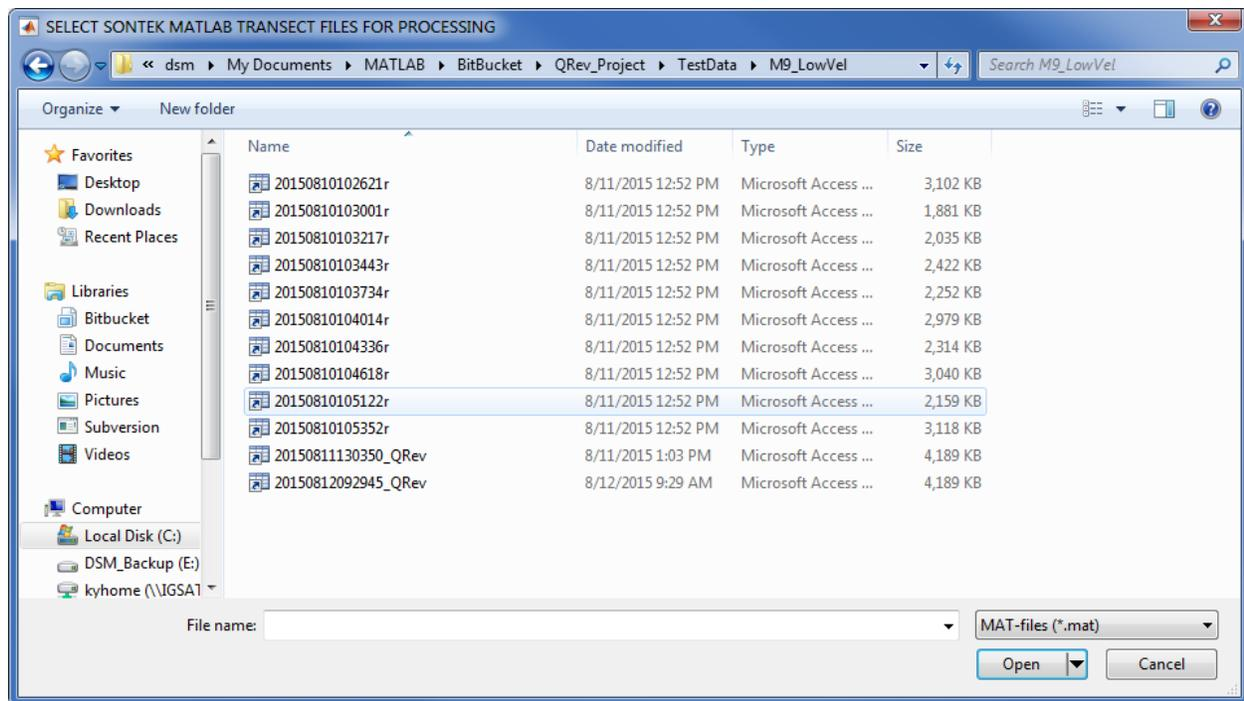

Figure 6. File selection dialog.
Clicking the appropriate data type will open a file selection dialog (fig. 6).
For RSL measurements, moving-bed tests and transects must be exported from RSL using the MATLAB export feature. These files must be output using east, north, up (ENU) coordinates and bottom track (BT), GGA, or VTG track reference. The files selected by the user from the Open File window shown in figure 6 should include the \*.mat files for all transects in the measurement (Windows commonly does not display the file extension and considers \*.mat files to be Microsoft Access Table Shortcuts.). QRev will automatically load associated moving-bed tests, system tests, and compass evaluations provided they follow the standard RSL naming and file storage conventions. Moving-bed tests filenames must begin with “Smba\_” or “Loop\_” and be exported to the MATLAB format (\*.mat). The system tests and compass calibration must be stored in subfolders of the measurement folder and be named System Test and CompassCal, respectively.